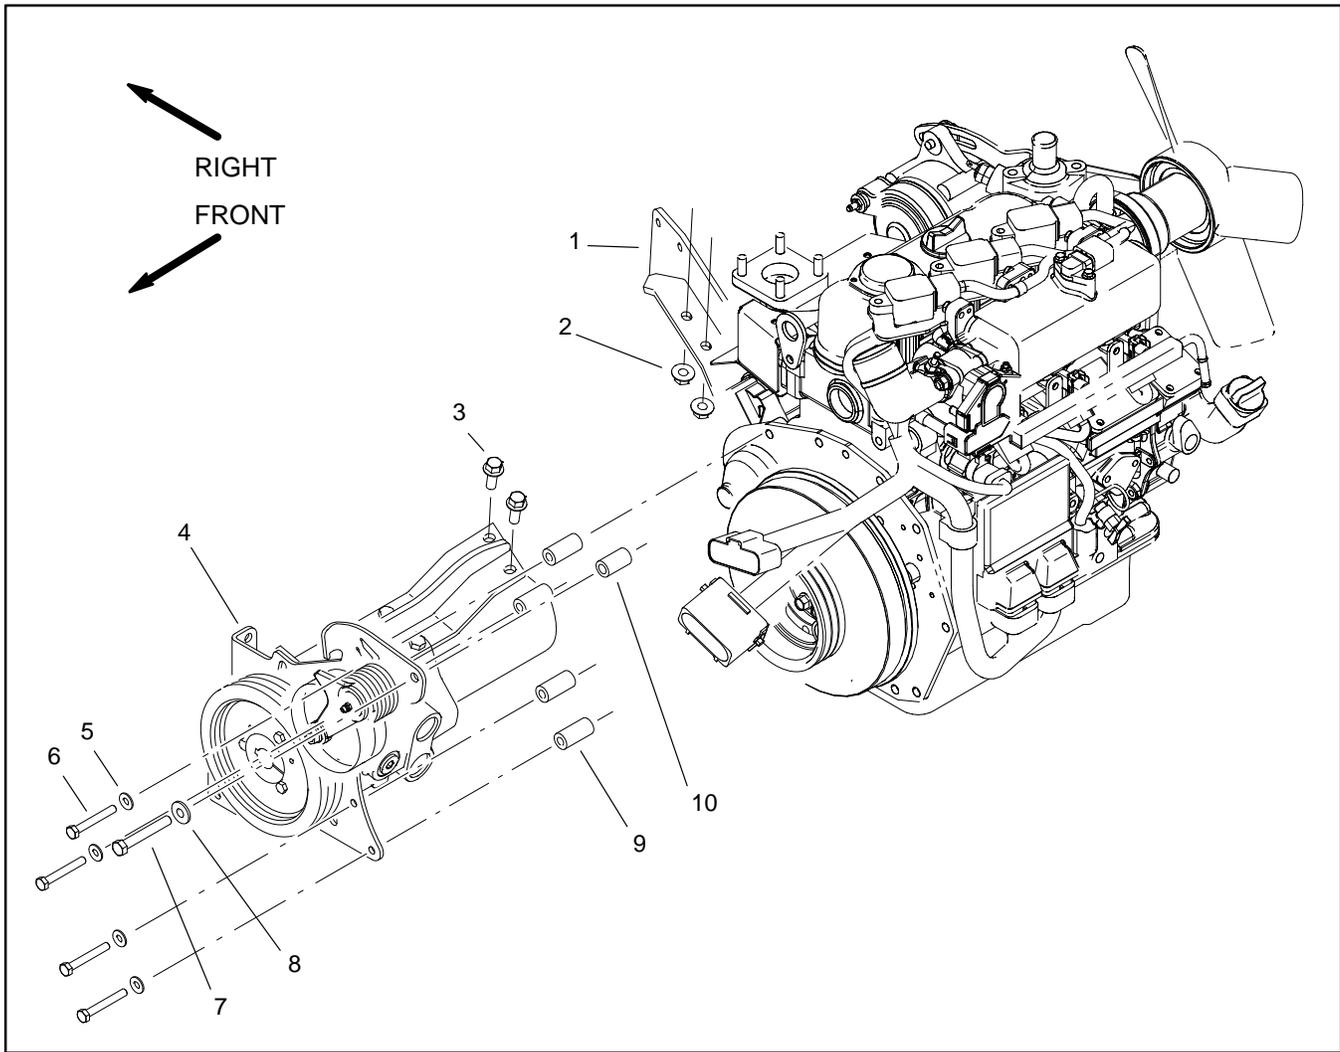

Figure 14
16. Separate hydrostat and pump assembly from the engine as follows (Fig. 14):
2. Install hydrostat and pump assembly to the engine as follows (Fig. 14):